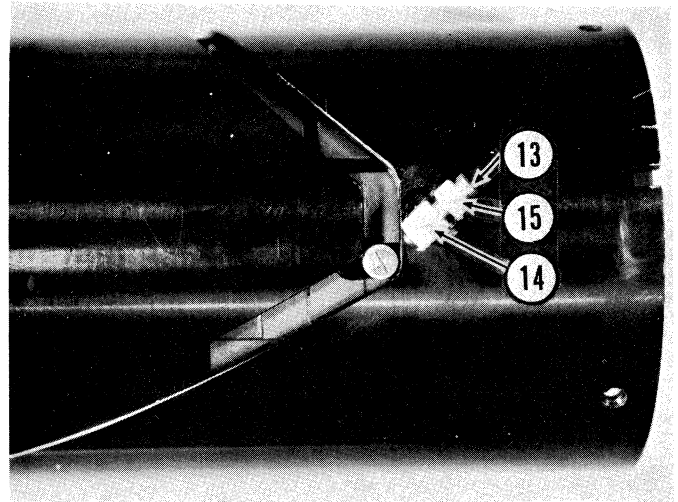

Fig. 10
- 2.1.8 Remove Roller Shaft (13) and Rollers (14 and 15) through zoom slot in Lens Barrel (4). (Fig. 10)
- 2.3.10.3 Position Zoom Group Housings within Lens Barrel as shown in Fig. 10 (hole in Third Housing near bottom of macro slot).